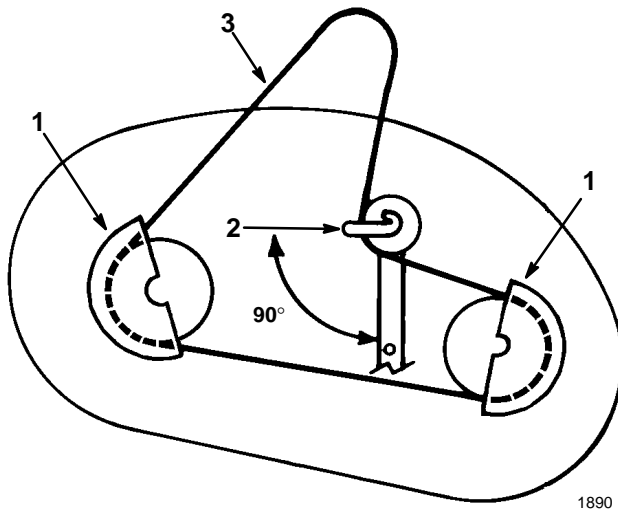

Figure 46
2. Remove the pulley cover mounting screws and pulley covers from both blade pulleys (Fig. 46).
3. Loosen, but do not remove the bolt and nut securing the idler pulley and belt guide (Fig. 46).
2. Position the idler pulley belt guide so it points toward the left, 90° to the idler arm (Fig. 46). Tighten the mounting bolt and lock nut securing the idler pulley and belt guide.
3. Install the left and right pulley covers with the mounting screws (Fig. 46).